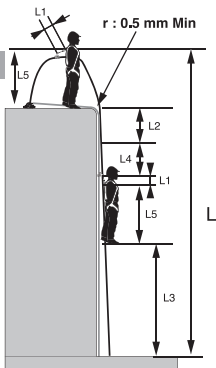

FIG. 5
- That the Stopfor fall-arrester anchor point is located at the same height or above the edge (figures 5.a, 5.b, 5.c).
- That the angle formed by the anchor line in contact with the edge, in the event of a fall, is less than 90° (figures 5.a, 5.b).